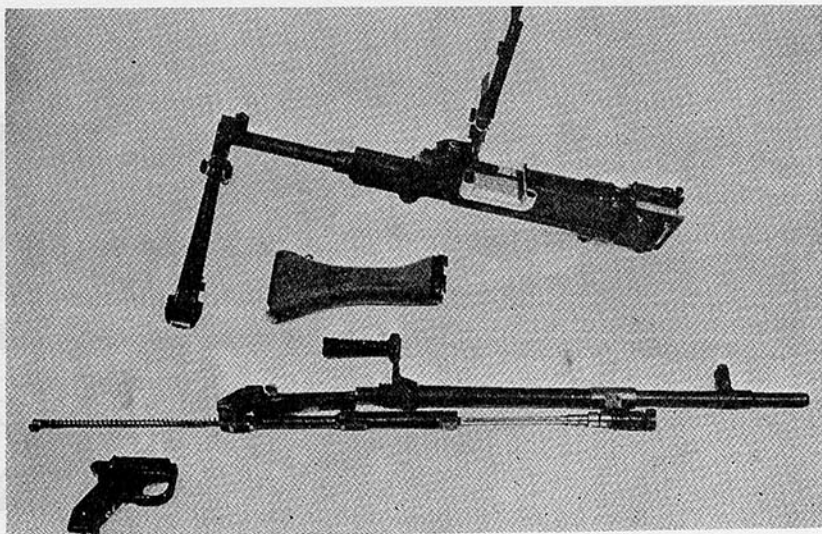

Fig. 36.—Stores layout for teaching mechanism
- Lay out the stores as shown in Fig. 36.*